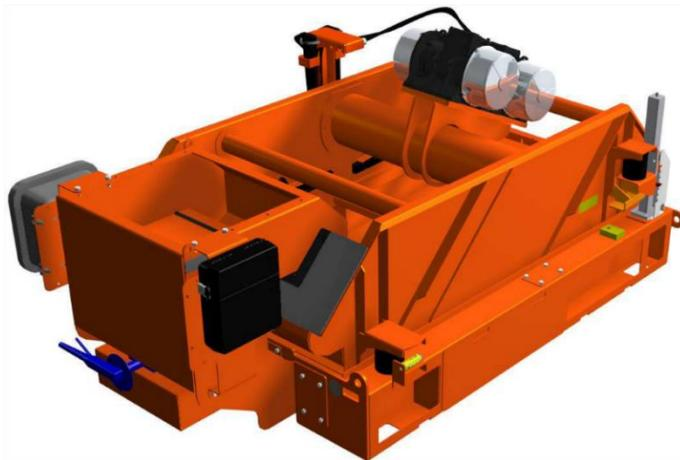

Figure 3. MONGOOSE PRO with Butterfly Valve Possum Belly
- The manually-adjustable butterfly valve is located below the main inlet on the possum belly (Refer to Figure 3).